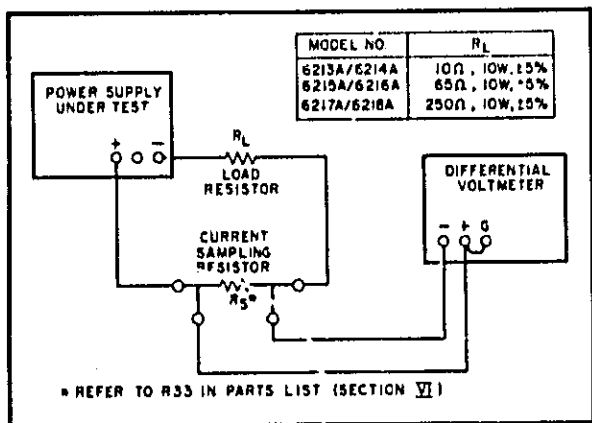

Figure 5-10. Constant Current, Test Setup
a. Connect test setup shown in Figure 5-10
- a. Connect test setup shown in Figure 5-10.
- a. Utilize test setup shown in Figure 5-10.